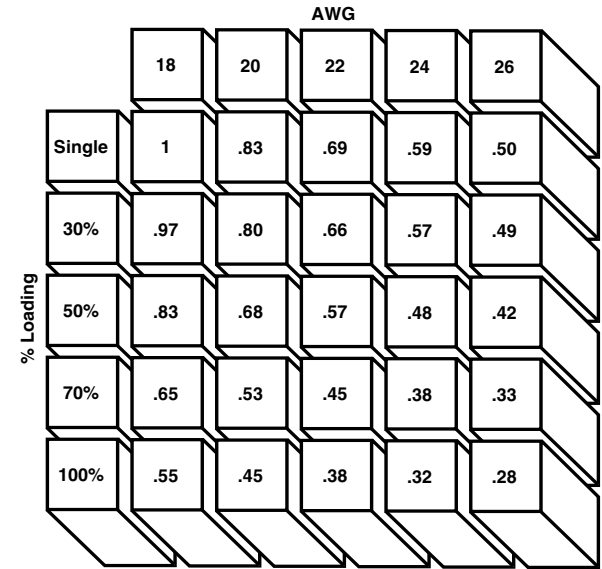

Figure 2 Rating factors allow the base current to be adjusted for various connector loading and wire sizes.
- Next are rating factors, a table of multipliers to account for connector loading and for smaller wire sizes (See figure 2). The designer first determines the base current for the ambient conditions of the application; then multiplies this base current by the rating factors to find the current level for the application's loading factor and wire size.
- Figure 2, the rating factor for 50% loading and 20 AWG [0.6mm²] wire is 0.68.